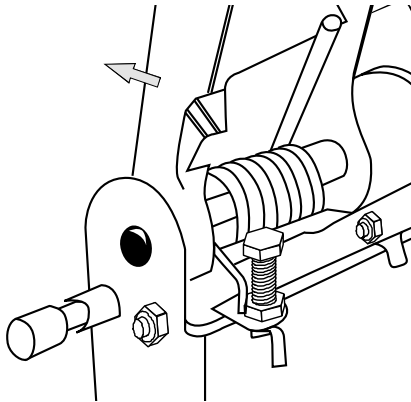

Figure 1
1. Lift the swing arm upward as far as it will go. (Figure 1)
Reset the depth stop as shown in Fig. 1. The new blade will be larger and will damage the work surface if the depth stop is not readjusted.